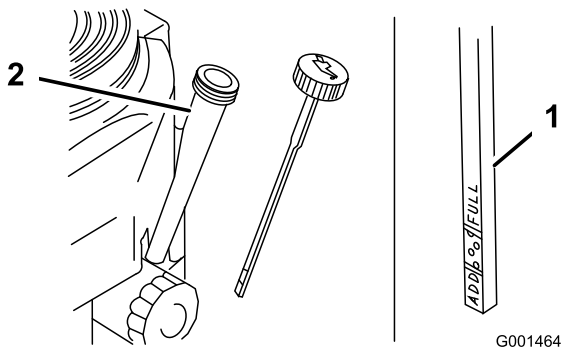

Figure 36
4. Clean around the oil dipstick (Figure 36) so that dirt cannot fall into the filler hole and damage the engine.
5. Unscrew the oil dipstick and wipe the end clean (Figure 36).
6. Slide the oil dipstick fully into the filler tube, but do not thread onto tube (Figure 36).
9. Slowly pour approximately 80% of the specified oil into the filler tube (Figure 36).